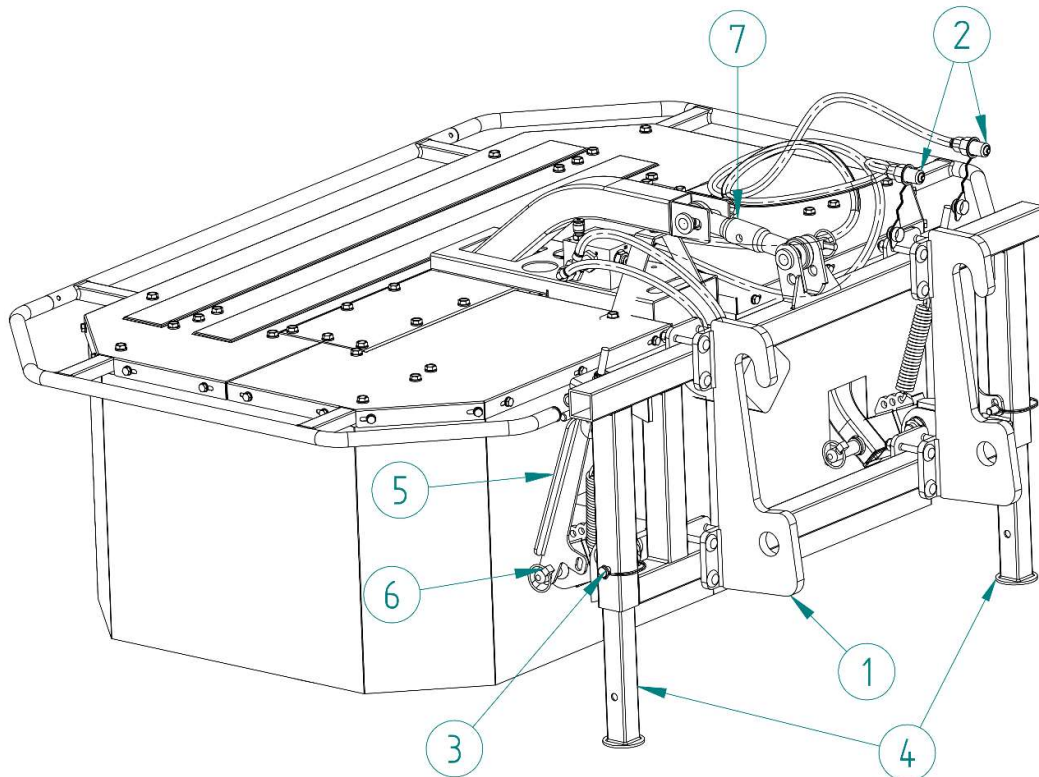

Fig 8 Hydraulic drive mower hitch elements
- 1) Link the mower via the selected brackets (1) to the vehicle.
- 2) Lift the machine so that the split pins can be easily pulled out (3), retract the support stands (4) and secure it with the pins.
- 3) Lower the machine on to the ground , take out the pin(6), and change the transport lock setting (5) from the transport position (fig. 8) to the working position(rys. 9). Working position is secured by the pin(3).
- 4) Connect the hydraulic hoses (2) to the loader/ tractor.